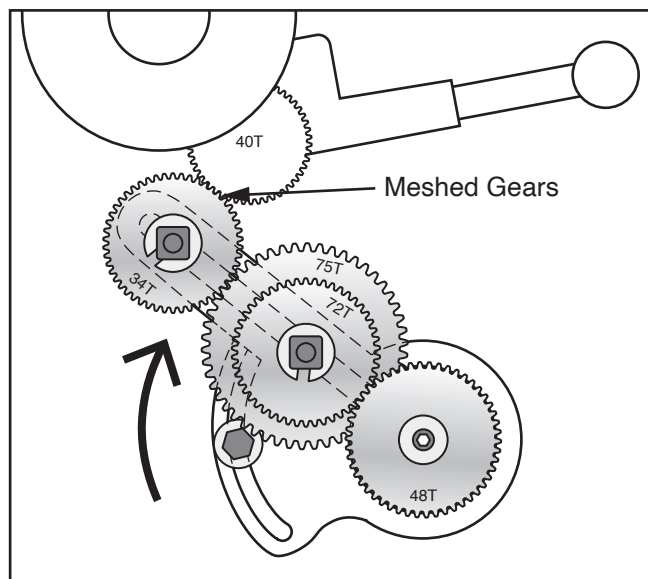

Figure 95. 34T gear meshed with permanent 40T gear.
15. Swing end gear arm up until 34T gear meshes with permanent 40T shown in **Figure 95** with 0.002"–0.004" backlash, then tighten end gear arm hex bolt to secure.